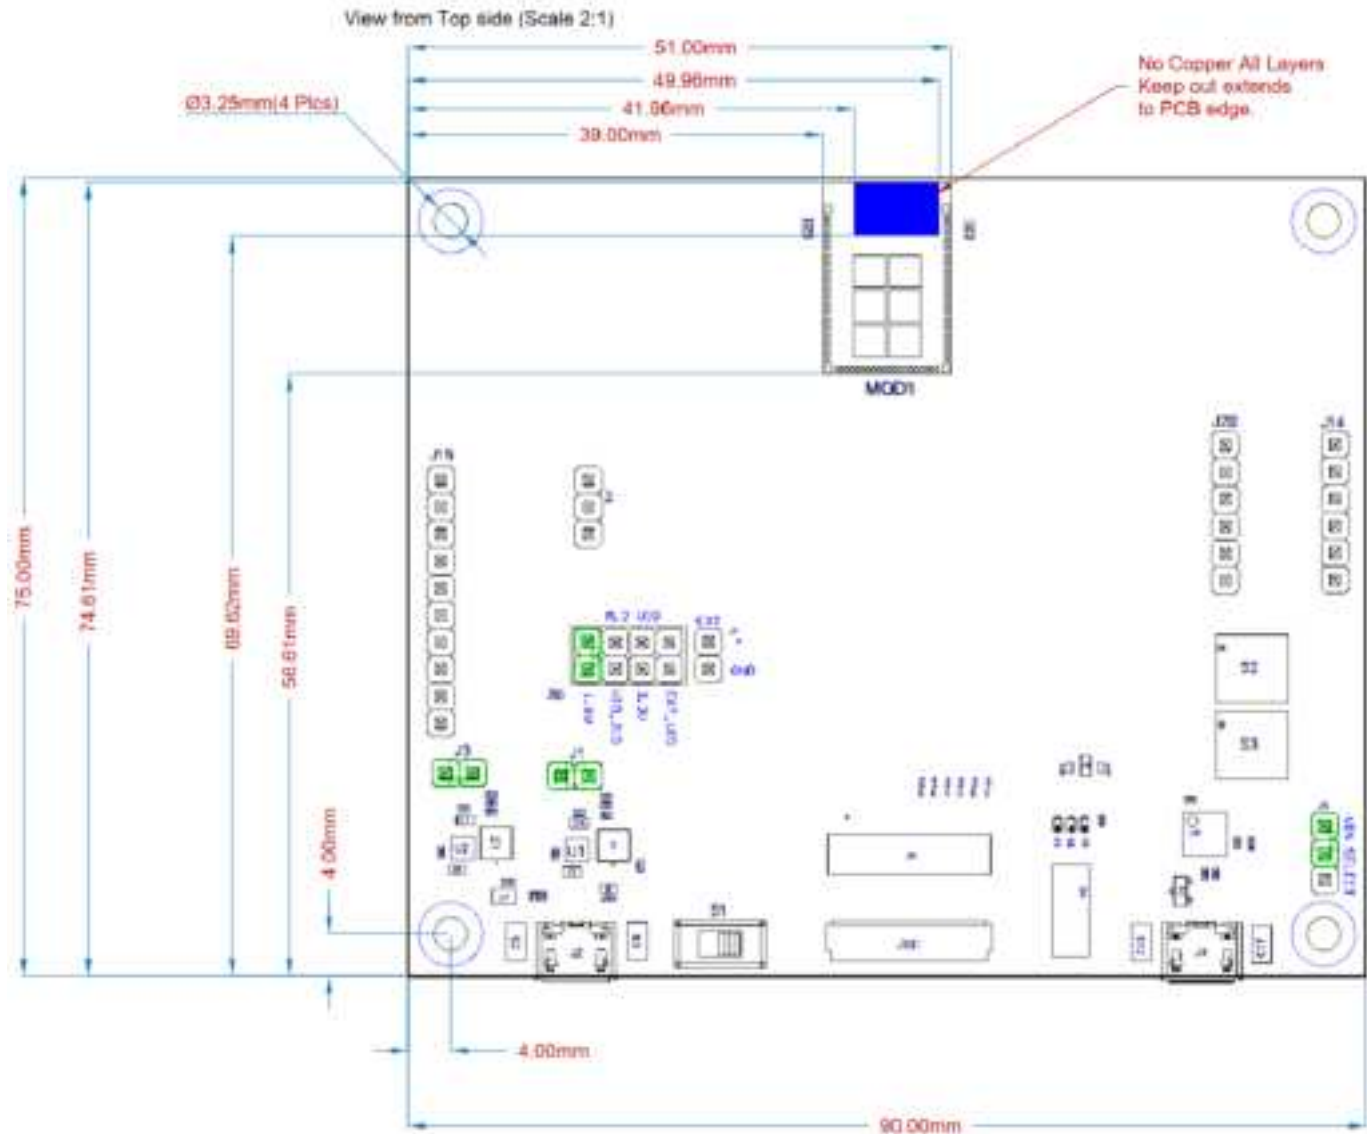

Figure 4: Sona NX611 M.2 1218 Chip Antenna Reference Board.
- The Sona NX611 Integrated antenna variant should be located at the center of the Host PCB and surrounded by ground on three sides. The antenna keep out region as defined in Figure 4 must be kept clear of copper on all layers of the host PCB.